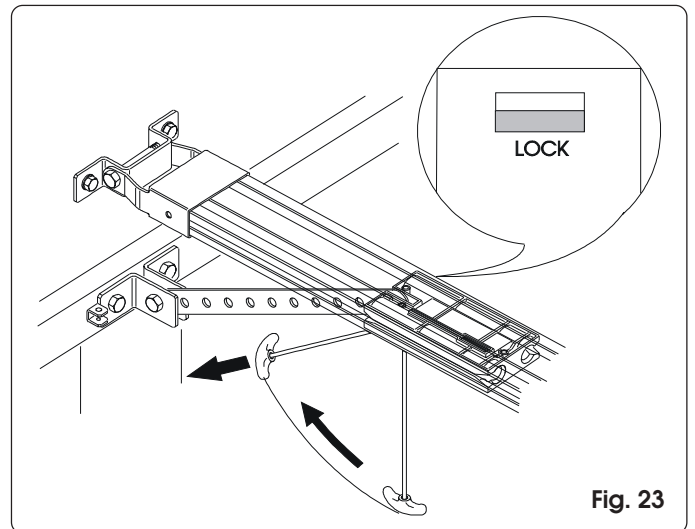

Fig. 23
- 4) Pull the release handle sideways in the direction of the door (fig. 23). Check that, on releasing the handle, the LOCK window located under the carriage is red. Manually move the door until locating the carriage coupling point.